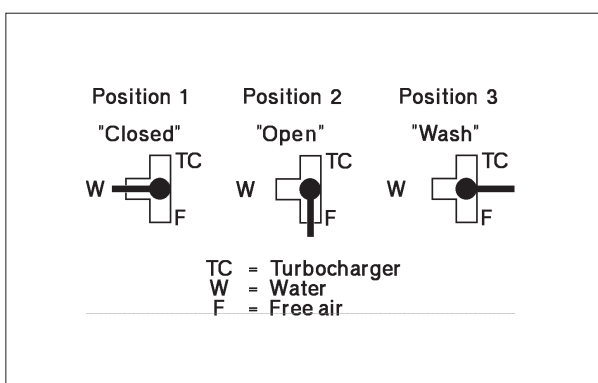

Fig 2. 3-way cock.
- 3) Turn the 3-way cock to position 2 "Open", see fig. 2 and check for free passage. If ok turn to the water wash position 3 "Wash".